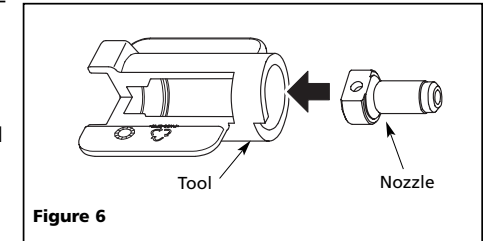

Figure 6
3. Replace nozzle as needed. See Figures 6 and 7. For proper alignment of nozzles, tighten until tool contacts tab on rotating arm, as shown in Figure 8.